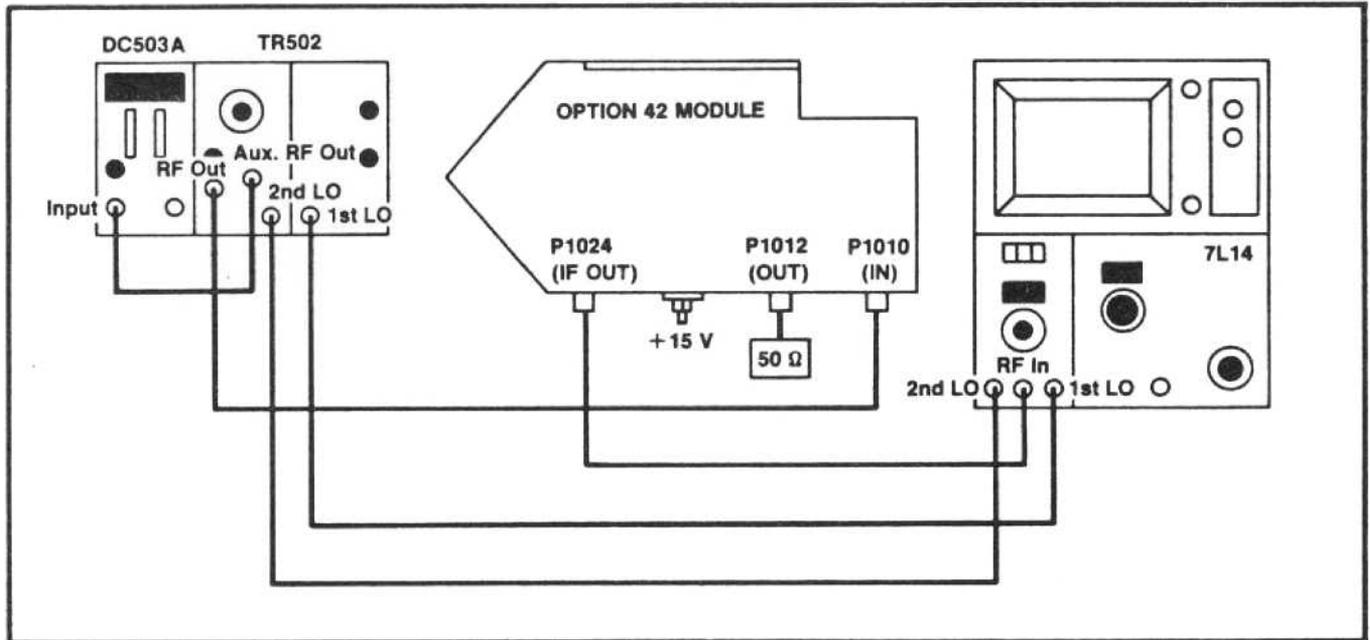

Fig. 5-35
a. Connect the test equipment as shown in Fig. 5-35.